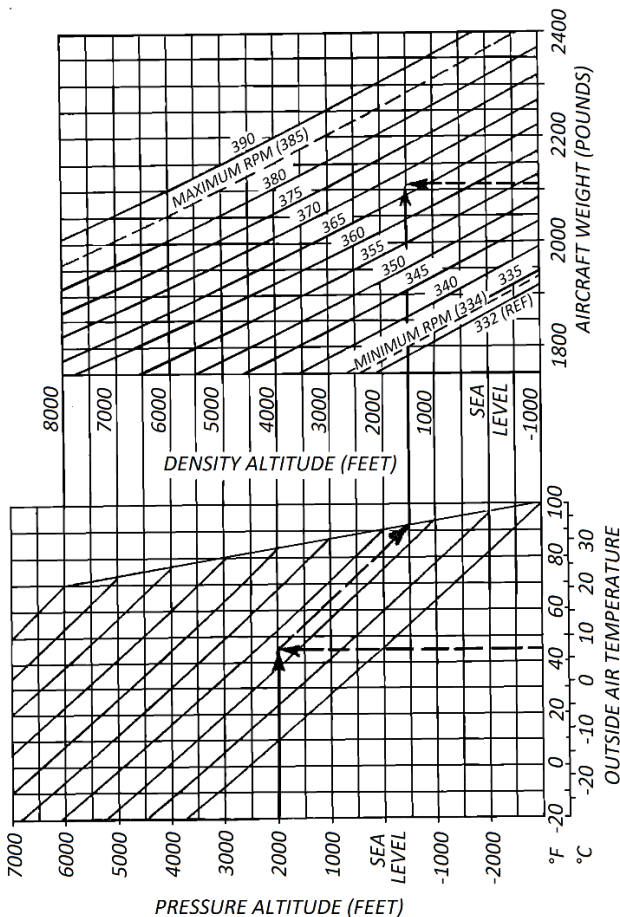
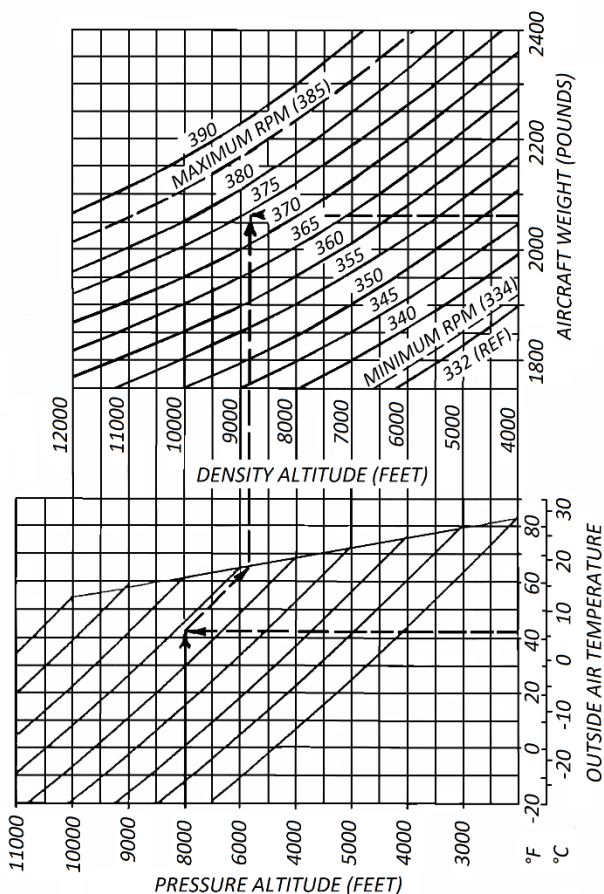

Figure 8-1. Autorotation RPM Schedule for Sea Level Base Altitude
Figure 8-2. Autorotation RPM Schedule for 6000 Ft Base Altitude
In order to autorotate throughout the complete range of gross weights and altitudes, the autorotation RPM must be set according to the schedule shown in Figure 8-1 or Figure 8-2. This setting was made before the helicopter left the factory and should not need to be changed if the helicopter is operated out of a base near sea level with the original blades.
The autorotation RPM should be adjusted to comply with the schedules shown in Figures 8-1 or 8-2. Figure 8-1 should be used if the helicopter is based at a location below 6000 ft. Figure 8-2 should be used if the helicopter is based at a location above 6000 ft. To check the autorotation RPM, proceed as follows:
- (4) Climb an additional 500 ft (or to an altitude sufficient to permit a stabilized autorotation while descending through the previous recorded altitude).
- (5) Establish the helicopter in a stabilized autorotation at 60 MPH with the collective full down. Do not allow the rotor RPM to exceed 385 RPM or to fall below 334 RPM.
- (6) Record rotor RPM passing through the altitude from step (3).
- (7) Compare the rotor RPM, outside air temperature (OAT), and pressure altitude readings with the information provided in Figure 8-1 or Figure 8-2, as appropriate. The actual RPM should be within ± 5 RPM of the chart.
- (8) If the RPM is not correct as indicated by the appropriate schedule, maintenance action is required to adjust the autorotation RPM.
- (9) If the RPM is adjusted, re-check the RPM as described in steps (1) through (7) of this procedure.